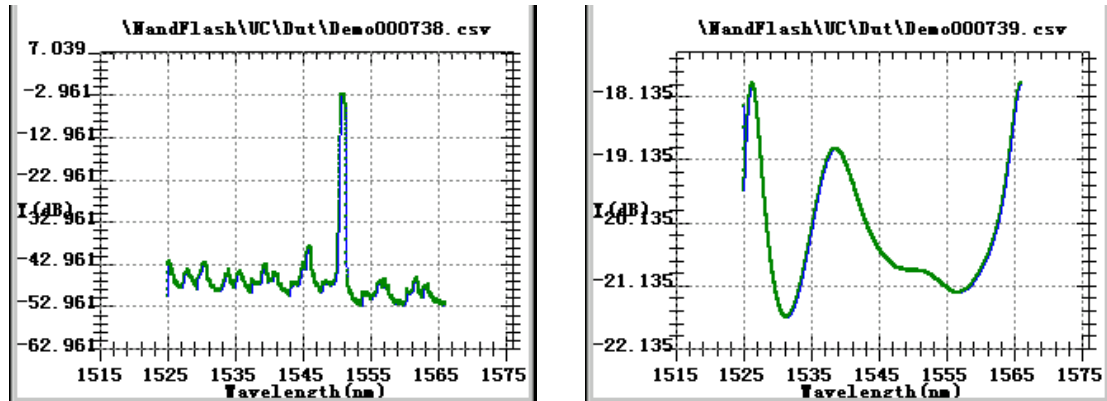

Fig. 18 DWDM Sweep Testing Graph
- 15 When the sweep operation finishes, a graph similar to figure 18 appears.